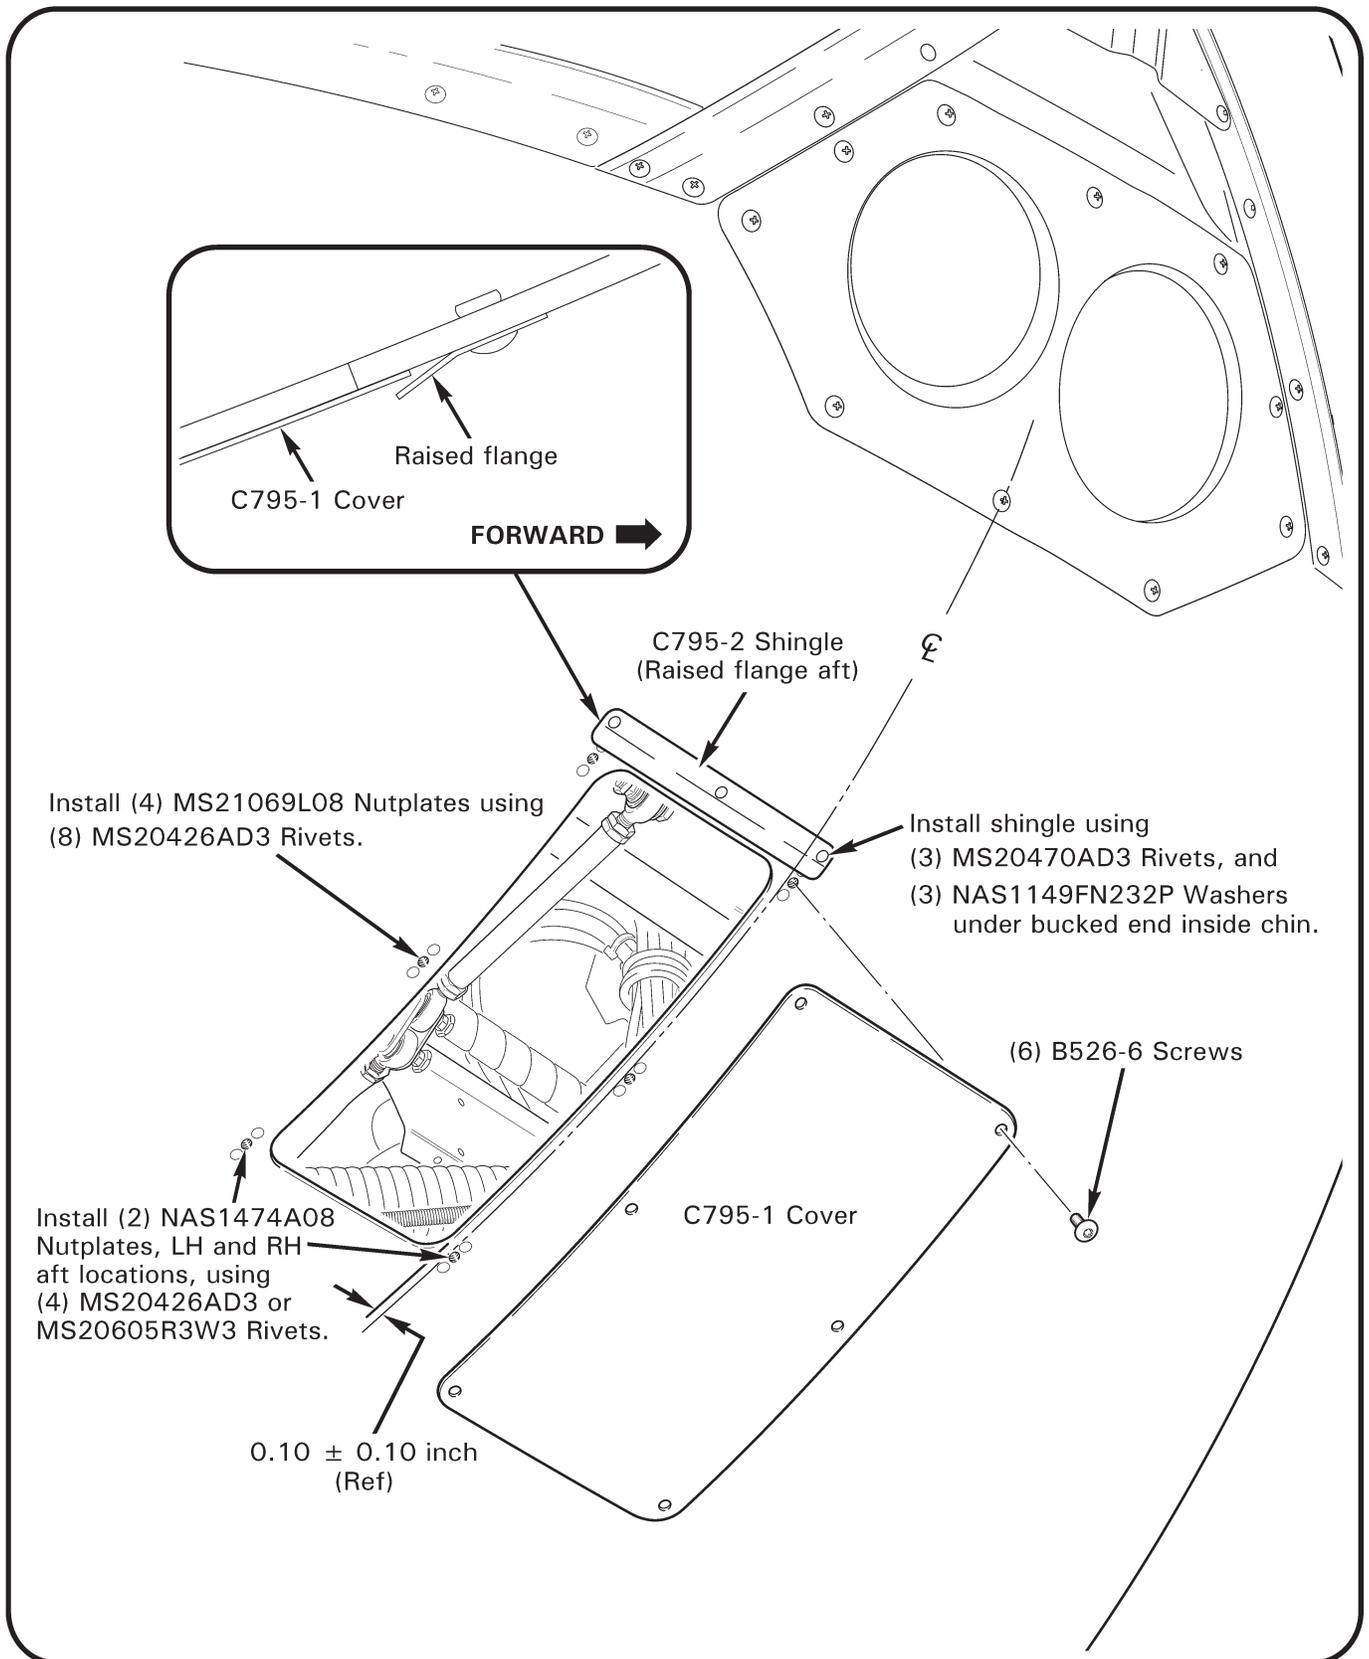

FIGURE 2 R44-series installation
- a. **For R44-series:** Refer to Figure 2. Temporarily hold (2) NAS1474A08 nutplates in aft positions on exterior using screws. Using nutplates as template, drill (4) 0.097–0.102 inch diameter rivet holes. Remove nutplates and create 0.170–0.190 inch diameter, 100° countersinks on outside of chin. Install nutplates using (4) MS20426AD3-4 rivets, or MS20605R3W3 blind rivets, at installer's discretion.